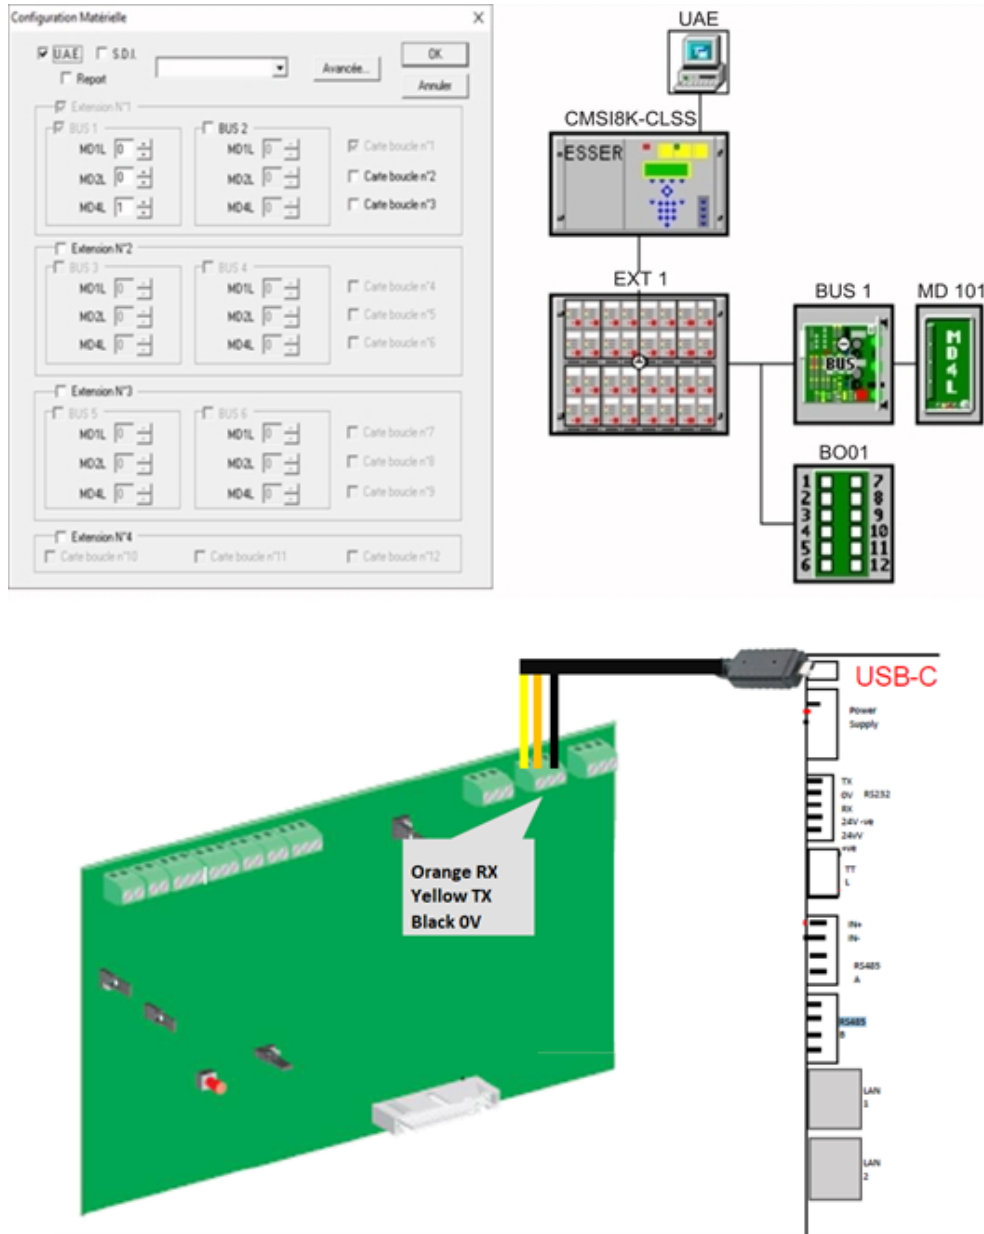

Figure C-13: CMSI Panel Settings
- Add the UAE settings on the panel and enable them as shown in Figure C-13: CMSI Panel Settings .